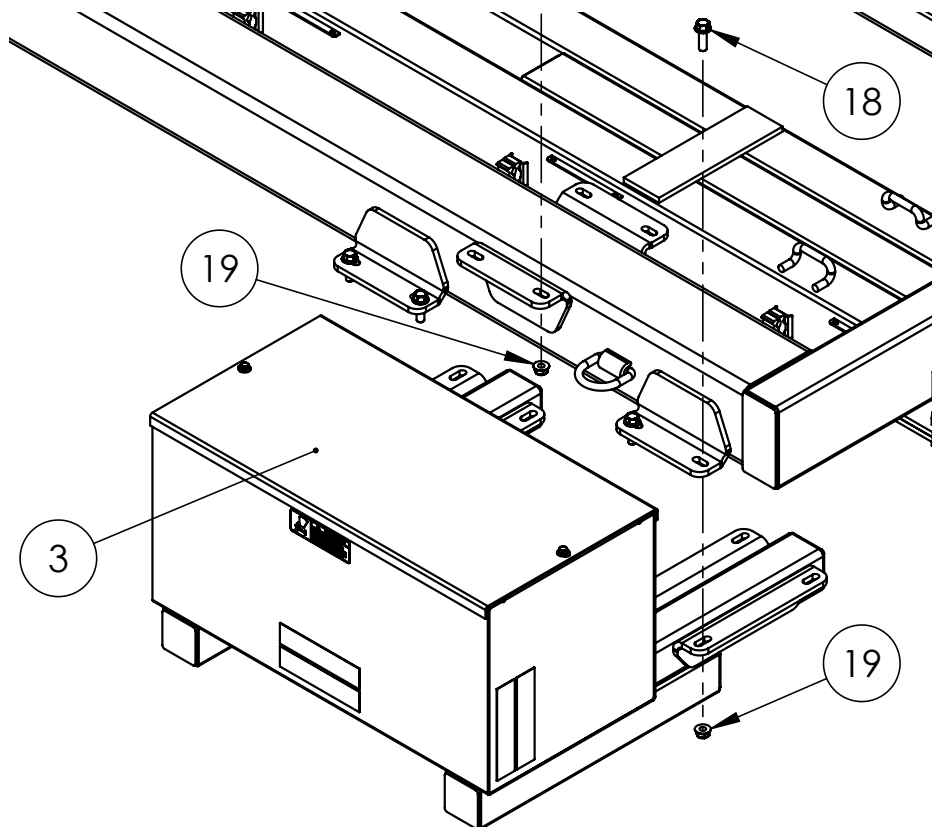

Figure 6
11. Assemble the weight box to the frame of the dump box with (8) 5/8" x 2" Gr5 bolts, (8) 5/8" diameter flat washers, (4) straps, (8) 5/8" lockwashers and a (8) 5/8" nuts as shown in Figure 6. Fill the weight boxes with at least **1000** lbs of sand or similar material for ballast.